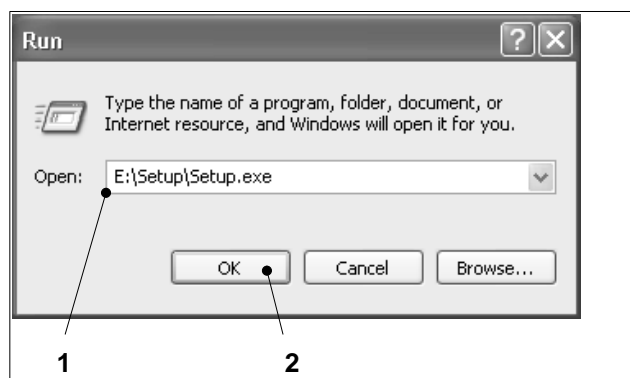

Fig. 20 The Run dialog window
2. Click on the Windows Start button and select the *Run* menu item (Fig. 191). The dialog window shown in Fig. 20 opens.
- Enter "E:\Setup\Setup.exe" (Fig. 20/1) in the *Open* input field.
4. Click on *OK* (Fig. 20/2).